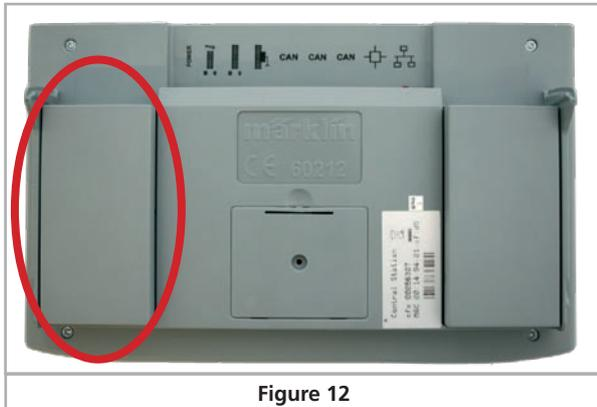

Figure 12
- c) RE-insert the module back into the extension slot as shown in figure 12.